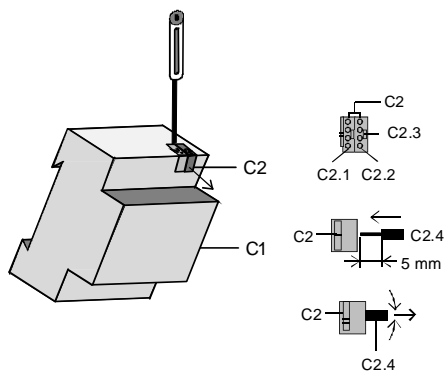

Figure 3: Connecting and removing the cable
**Removing the bus terminal** (Figure 3)
**Plugging in the bus terminal** (Figure 3)
**Connecting the bus cable** (Figure 3)
**Disconnecting the bus cable** (Figure 3)